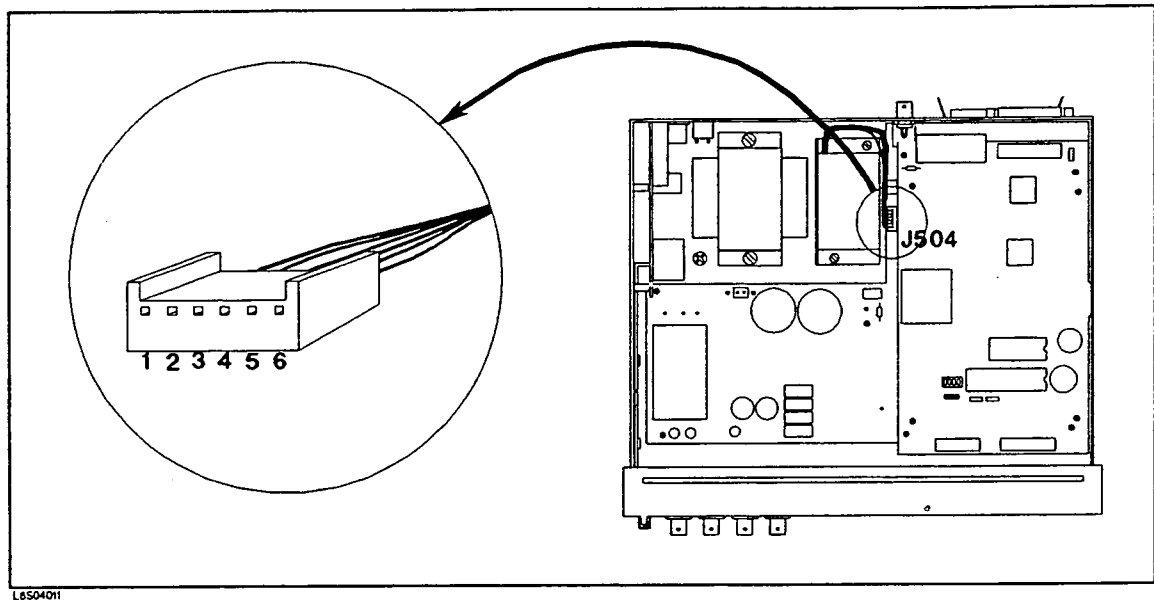

Figure 4-14. DC-DC Converter Output Connector
2. Disconnect the DC-DC Converter Output Cable shown in Figure 4-14 from connector "J504" on the A1 Main Board Assembly.
4. Using the multimeter, check if the DC-DC Converter open output voltages on the output connector pins shown in Figure 4-14 are in the ranges shown in Table 4-2.